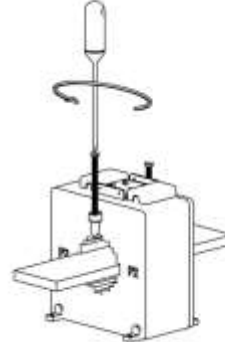

Figure 34: Screwing the centering screw on the P2 side
2. Loosening the S1 and S2 terminals - see Fig. 34 and 35